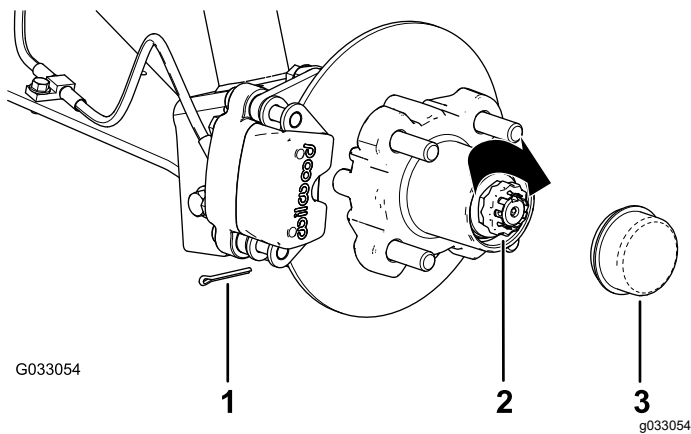

Figure 28
8. Install the retainer over the nut and check the alignment of the slot in the retainer and the hole in the spindle for the cotter pin (Figure 28).
9. Install the cotter pin and bend each legs around the retainer (Figure 28).
10. Install the dust cap onto the hub (Figure 28).